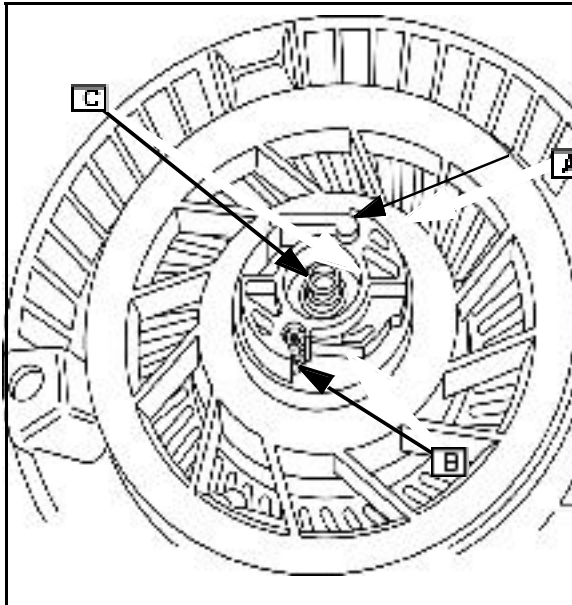

Fig. 26
4. Install pawls (A), pawl springs (B), and brake spring (C) Fig. 26).